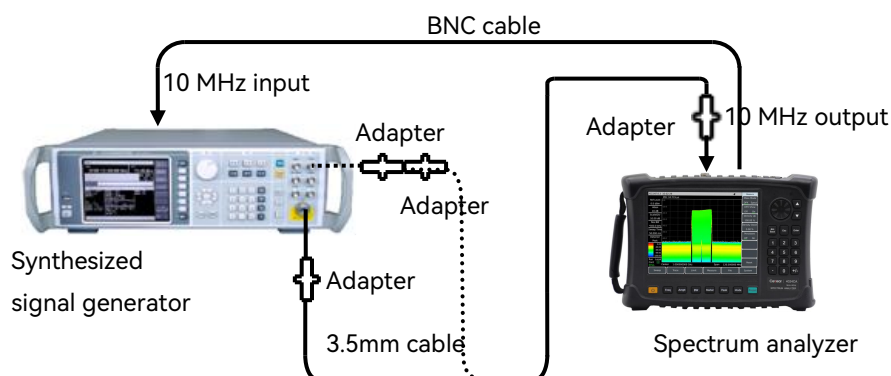

Fig. 12- 3 Frequency span test
4) Connect the RF output of the 1464A Synthesized signal generator to the RF input of the spectrum analyzer with adapters and cables by following the solid lines of Figure 12- 3. Set the output frequency of the signal generator to 9GHz, the modulation function to off, and the output power to -10dBm;